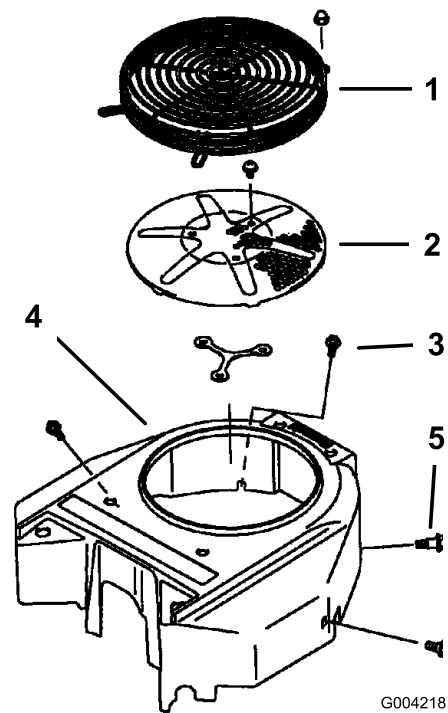

Figure 60
3. Remove the air intake screen and fan housing (Figure 60).
5. Install air intake screen, recoil starter and fan housing (Figure 60).